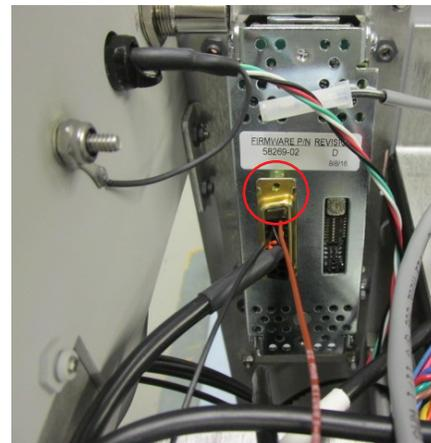

Figure 2: Location of screw placement on the syringe drive
5. Connect the AutoInjector power cable to the port on the back of the syringe drive and secure with the provided panhead screws and internal lock washers (Figure 2).